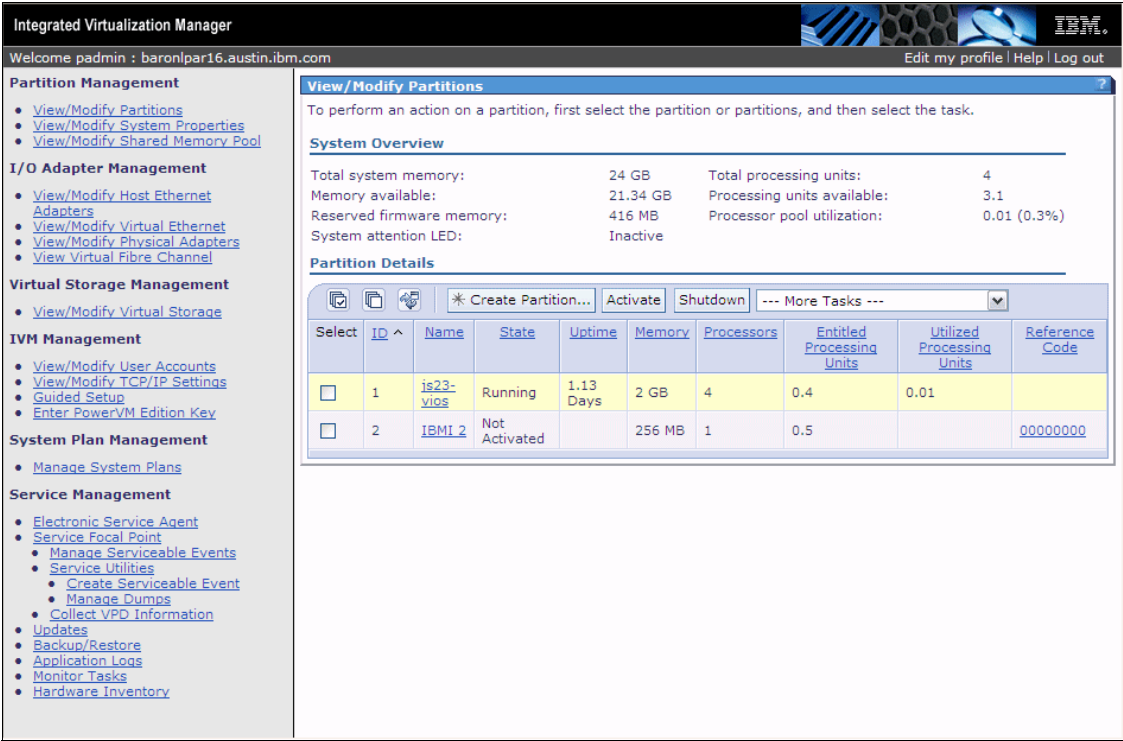

Figure 5-1 Start Active Memory Sharing configuration with View/Modify Virtual Storage
1. To create a common paging storage pool start in the navigation area of the IVM UI and click on **View/Modify Virtual Storage** as shown in Figure 5-1.